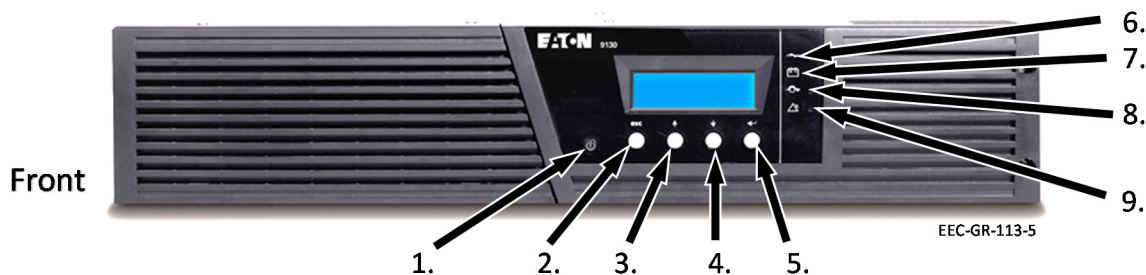

Figure 71. UPS
3. On the Radar System UPS (see **Figure 71, Point 1**), press and hold the power button until the UPS power on.
- d. UPS System (**Figure 71, Point 1**), press and hold the power button until the UPS powers off.